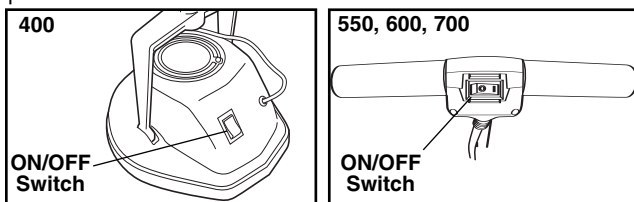

Figure 2. Orbiter® Multi-Floor Machine On/Off switch
The on-off switch is located on the back side of the motor housing (**400**) or on the handle (**550, 600, 700**). It has been designed to be conveniently activated. On (I) - Off (O) is printed on the switch. (See Figure 2.) BE CAREFUL that the switch is in the OFF (O) position before you plug the electrical cord into the outlet. Before turning the machine on, be sure there is a bonnet pad or brush in place on the machine.